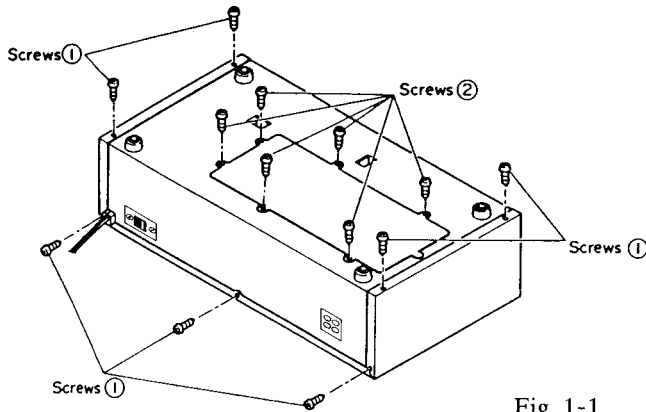

Fig. 1-1
- 1) Remove the screws ① as shown in Fig.1-1 and remove the top cover by sliding it off to the rear.
- 2) The bottom cover can be removed by removing the 6 screws ②